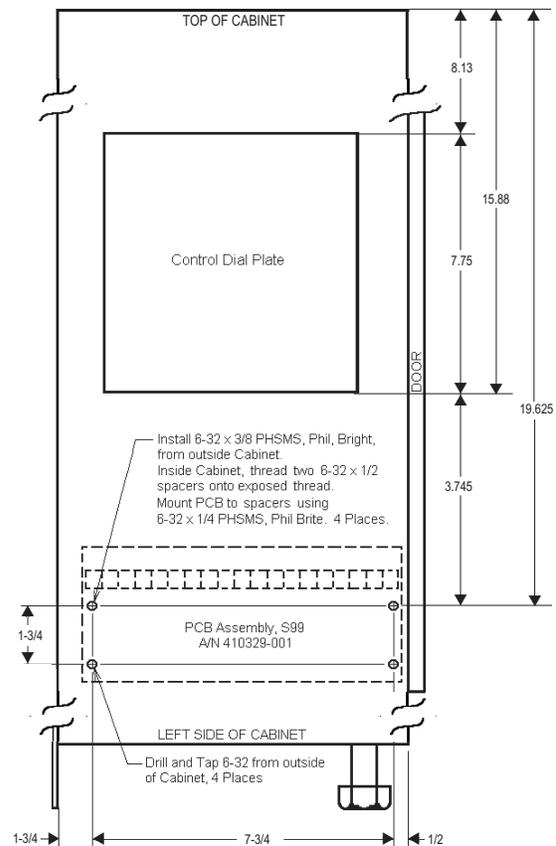

Figure D5. S99 Mounting detail for “L”, “H”, “G”, or “U” Cabinet
3. Remove the four (4) screws mounting the Terminal Strip Input Board (A/N 410329) to the cabinet. Rotate the Board 180° (so the terminal strip is at the top) and re-mount the Board using the same four (4) screws.
4. Drill and tap the left side of the cabinet per Figure D5, be sure to vacuum or otherwise remove **ALL** metal chips before installing four (4) 6-32 x 3/8 PHSMS, Phil., Brite from outside of cabinet. On the inside of the cabinet, mount two (2) 6-32 x 1/2 spacers (P/N 555031) on each exposed thread (4 places) to offset PCB 1" from cabinet wall.
5. Mount S99 PCB (A/N 410329-001) to spacers using four (4) 6-32 x 1/4 PHSMS, Phil., Brite. See Figure D5.